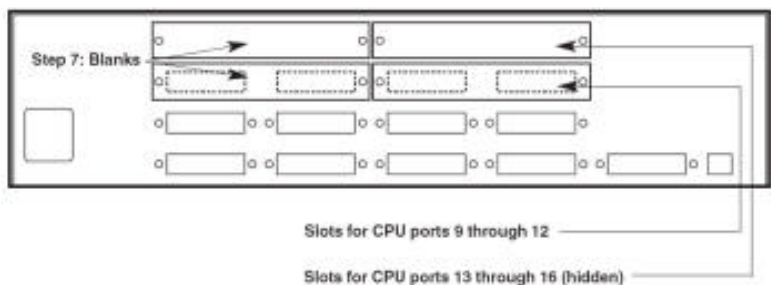

Figure 3. The Switch's back panel*.
7. Depending on how many Expansion Boards you are installing, you will need to remove two or four of the CPU-port blanks (covering plates) that are attached to the Switch's back panel and cover the CPU-port slots—see Figure 3 on page 7. Unscrew and remove the screws that fasten these blanks to the back panel, then remove the blanks themselves.